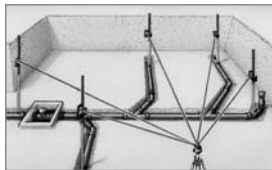

Bild 4
- With a rotation laser and 2 SensoLites, you can work in two positions at the same time (Fig. 4).